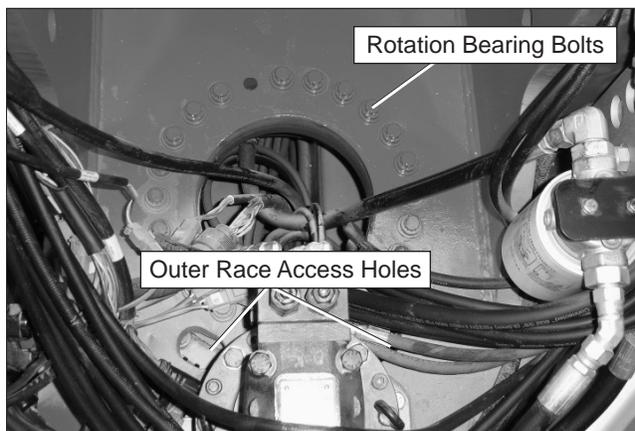

Figure 7.12 – Rotation Bearing Bolts
3. Raise the riser boom to access the inner race rotation bearing bolts in the turntable (refer to Figure 7.12). The outer race bolts can be viewed through the openings in the turntable. Rotate the turntable to inspect all of the outer race bolts.